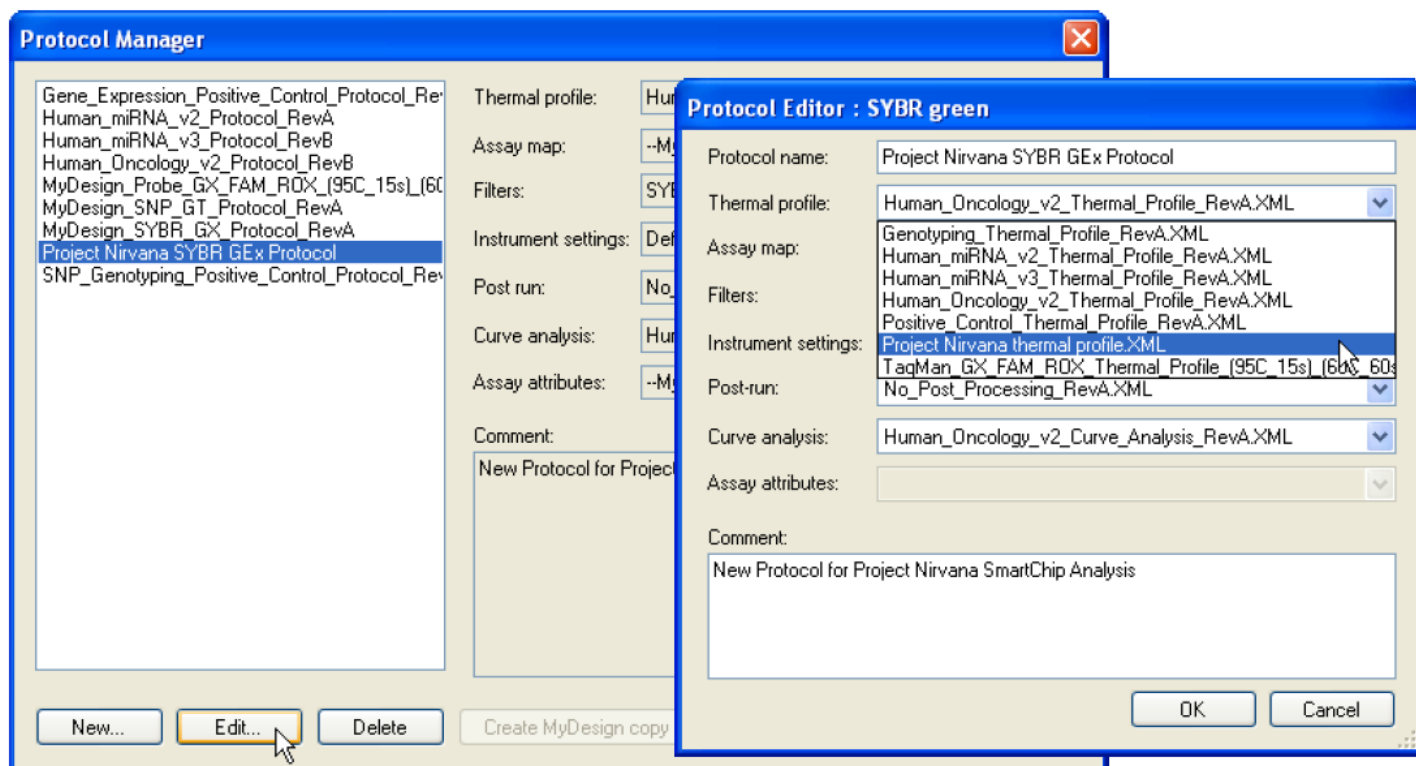

Figure 20. Pulling the modified thermal profile into your new protocol.
- e. Pull the modified thermal profile into your new protocol file (Figure 20):